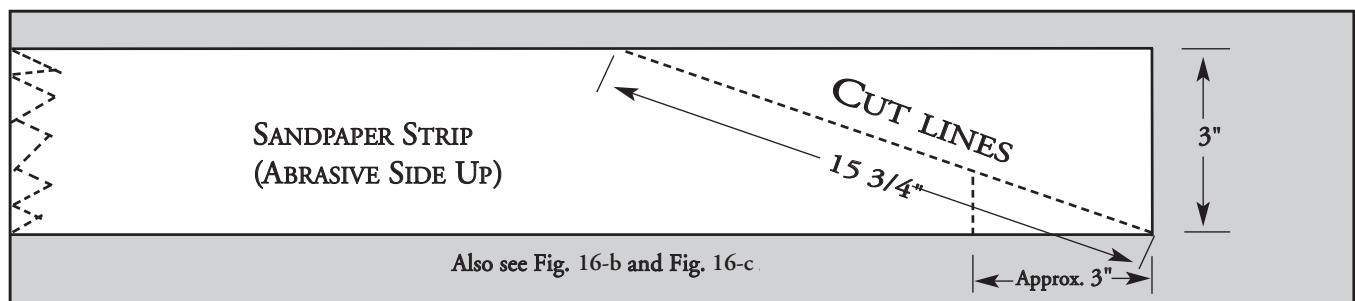
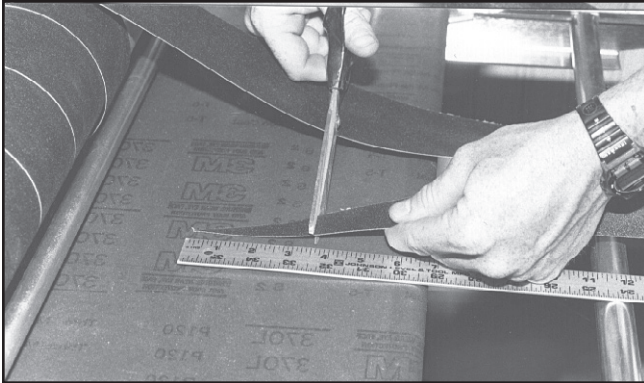
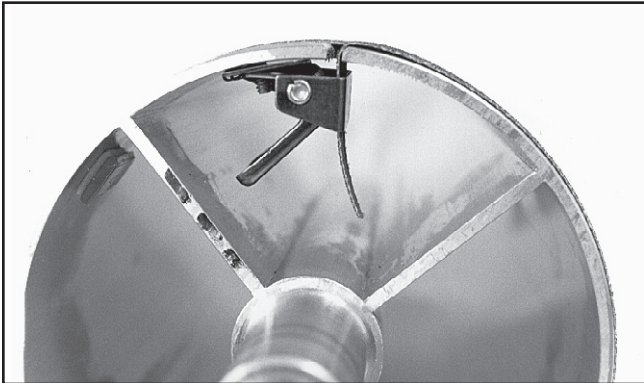

Fig. 16 Marking and cutting taper on strip.
Fig. 16B Trim about 3" from end of cut taper.
Fig. 16D Insert tapered end into outboard slot.
1. Mark and cut a taper at one end of the roll as shown in Fig. 16. Because the tapered end should use most of the left (outboard) slot width, its end must be trimmed (Fig. 16B and 16C). Raise the clip lever on the left (outboard) side of the drum (Fig. 16D). Insert the tapered end through the slot and into the fastener so that it uses most of the width of the slot. Release the clip lever to securely hold the strip end in the fastener.